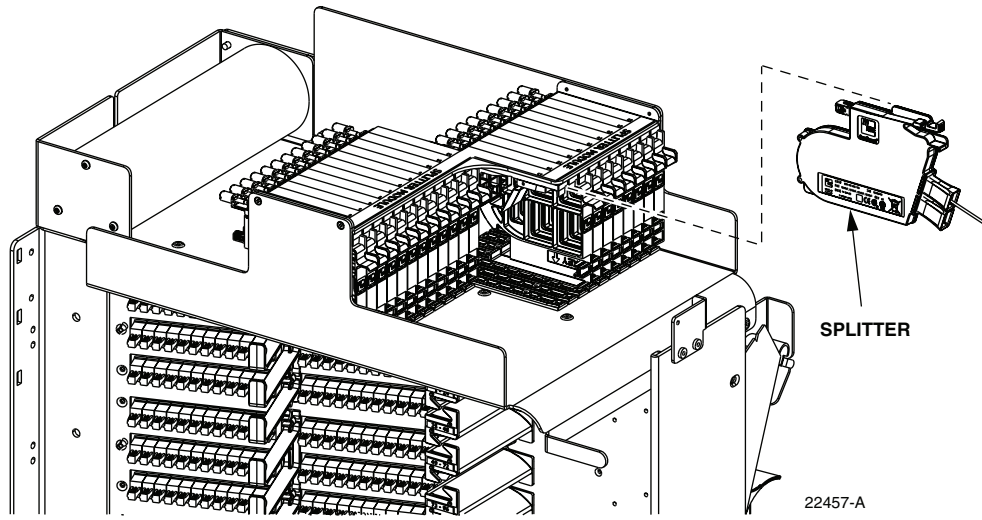

Figure 42. Splitter Installation
8. Insert the splitter into the mounting slot as shown in Figure 42.